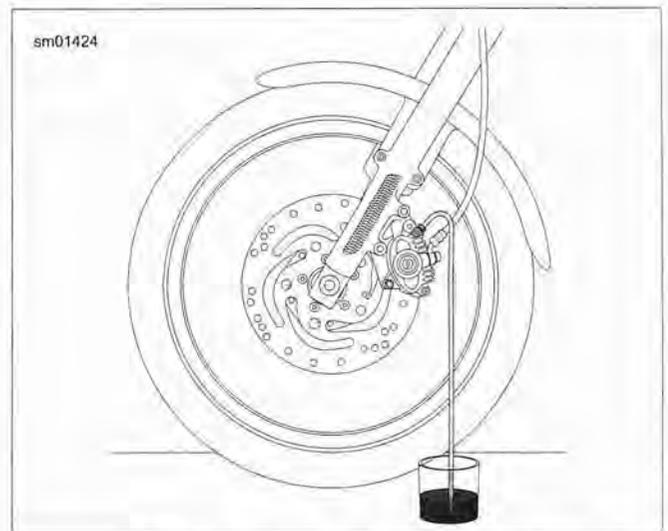

Figure 2-49. Bleeding Hydraulic System
7. See Figure 2-49. Install length of 5/16 in (7.9 mm) I.D. clear plastic tubing over front brake caliper bleeder valve. Place free end of tube in a clean container.